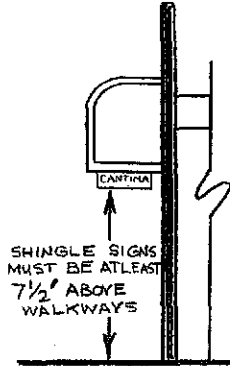

FIGURE 5
- (1) The sign, if nonilluminated, is constructed of painted or stained wood or material simulating wood;
- (2) The message on the sign is limited to the name of the business and the principle classification of goods sold or services rendered on the premises;
- (3) The sign will not be attached to any structure other than a building or awning;
- (4) No portion of the sign will exceed the elevation of the eaves of the building to which it is attached and in no case will it exceed eleven feet from the finished grade of the lot below the sign;
- (5) The sign will not be more than three inches nor less than one-half inch thick except as reasonably required in connection with some graphic element of the sign;
- (6) The sign will not be less than seven and one-half feet above any pedestrian walkway and not above any vehicular passageway; (See Figure 5)